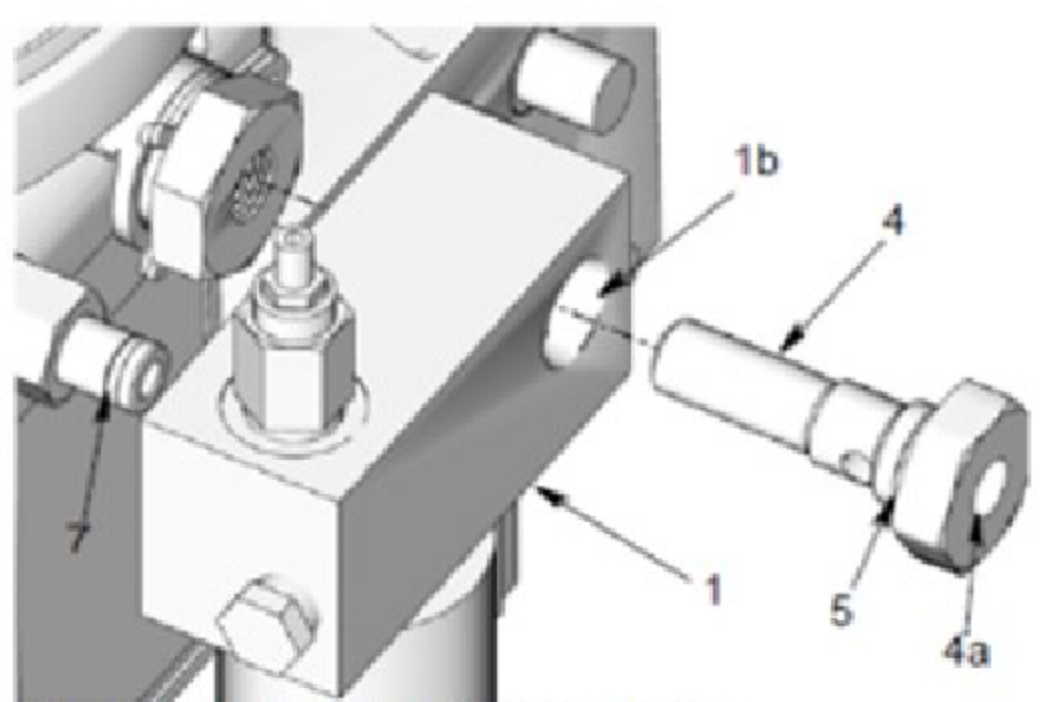

FIG. 5: Right Side Installation Shown
- 6. Be sure o-ring (5) is installed on bolt (4) as shown in FIG. 5.
- 7. Install vent valve mounting bolt (4) through hole (1b) in block (1) and into G3 pump (FIG. 5). Tighten mounting bolt (4) securely then torque to 35 ft. lbs. (47.45 N.m).